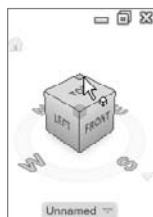

FIGURE 16.12 Using the ViewCube to change the view orientation
2. Click the upper corner of the ViewCube to change your view to a North East orientation (see Figure 16.12), and zoom into the lower-left corner of the cabin so that you can see the bathroom walls.